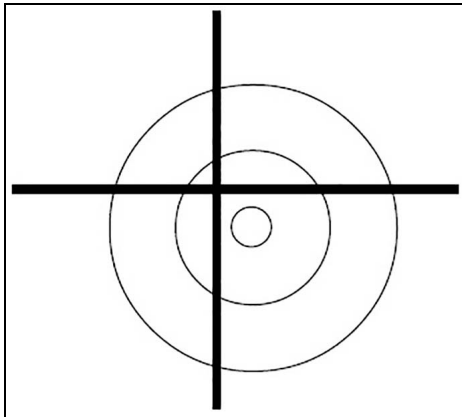

Figure 14: Stage image mark
3. Push the AKF slider upwards until figure 14 is visible.